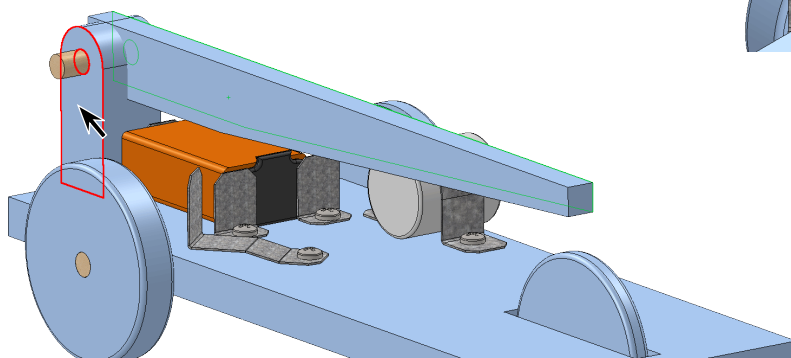

Fig. 16
Step 9. Rotate view to view **side face of Cross Support** as shown in Fig. 16. To rotate, hold down middle mouse button (wheel) and drag.
Step 10. Click **side face Cross Support**, Fig. 16.